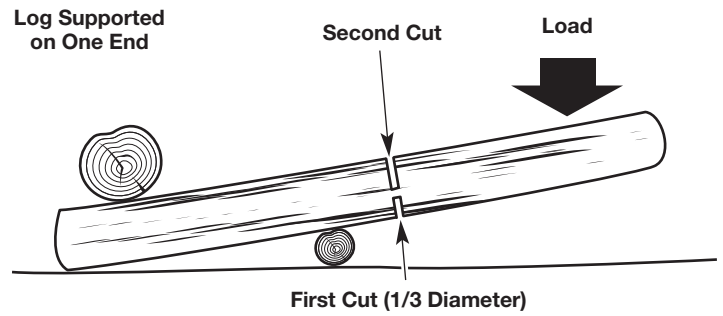

Fig. 17
- If the log is supported on one end (Fig. 17), make the first cut from below (underbucking). Refer to *Underbucking*.